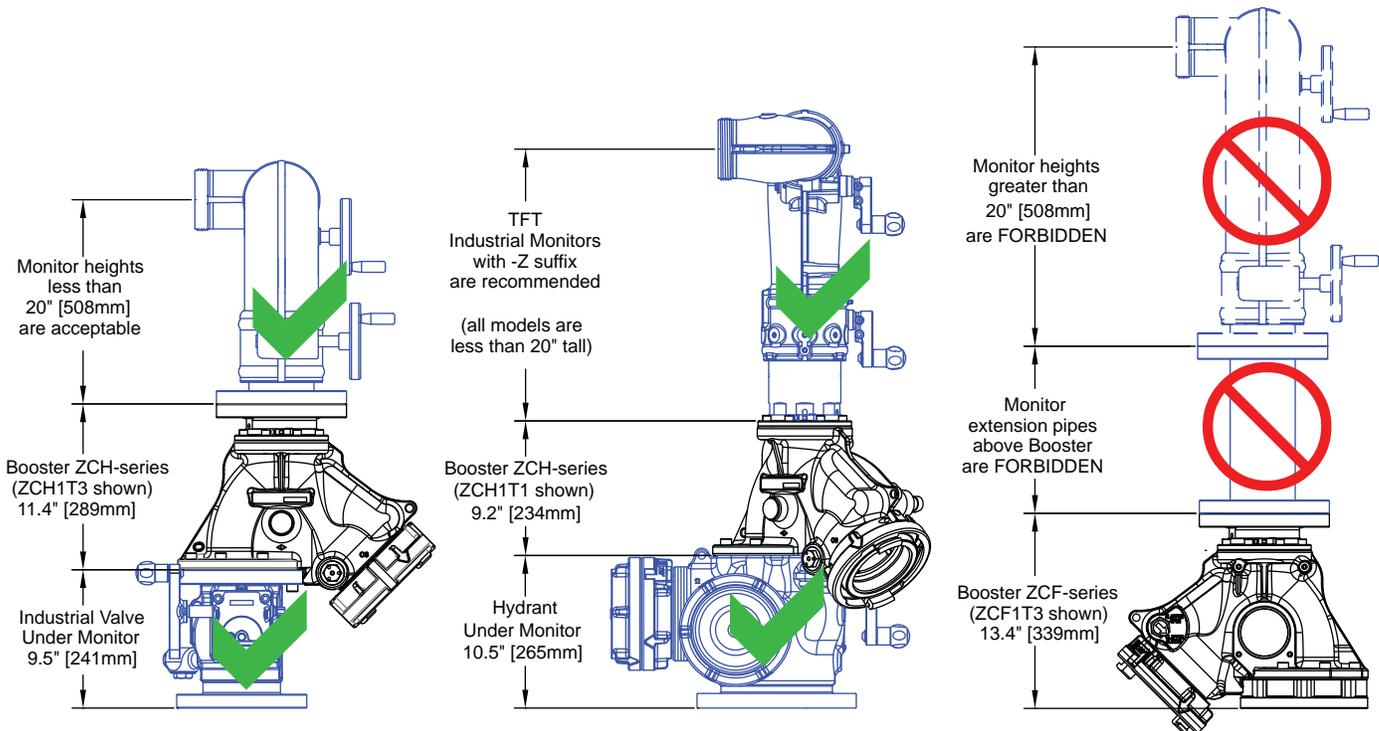

Figure 4.3: Acceptable Monitor Height
- Do not exceed 20" (508 mm) monitor height measured from bottom edge of monitor inlet (flange or female thread) to centerline of monitor outlet. Examples of acceptable and forbidden monitors are illustrated in Figure 4.3 Acceptable Monitor Height.